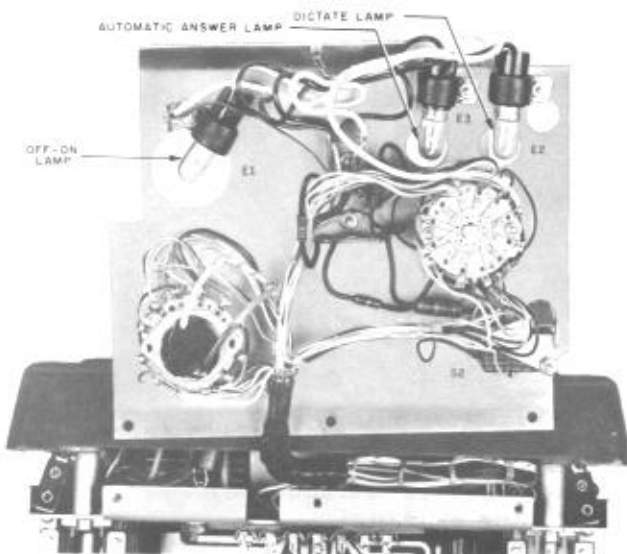

Fig. 8 — Control Panel Indicating Lamps
- 1.12 The control panel indicating lamps are shown in Fig. 8.